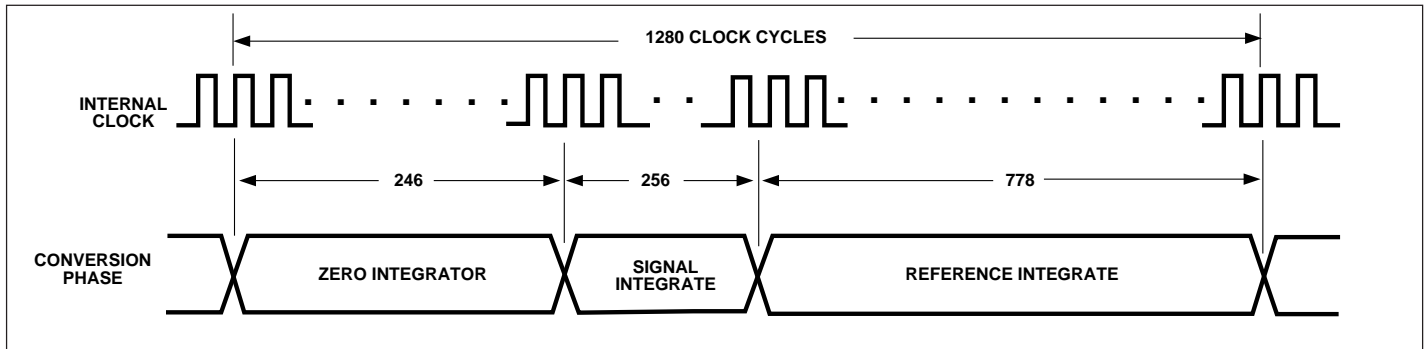

Figure 4. Conversion Timing
Each conversion consists of three phases: (1) Zero Integrator, (2) Signal Integrate, and (3) Reference Integrate (or Deintegrate). Each conversion cycle requires 1280 internal clock cycles (Figure 4).